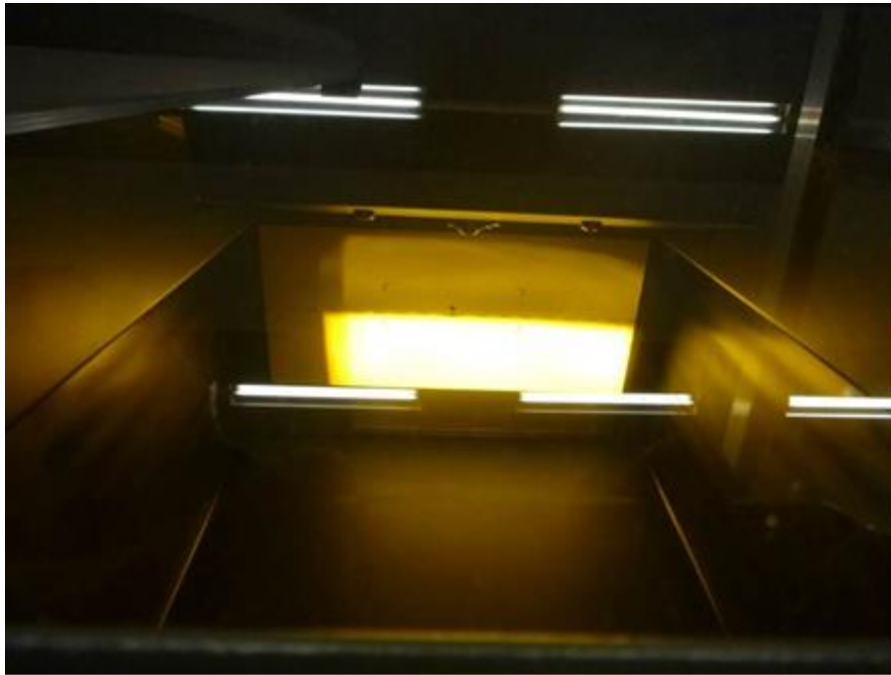
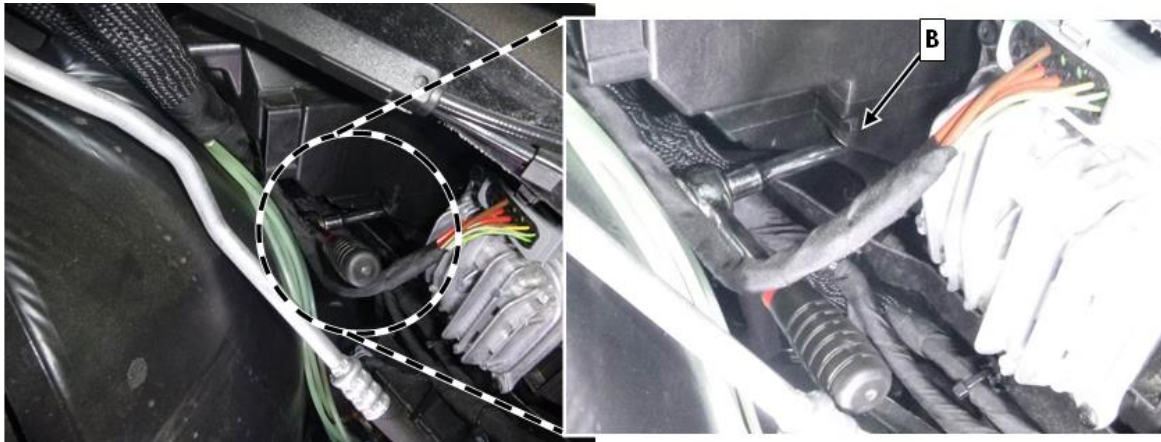
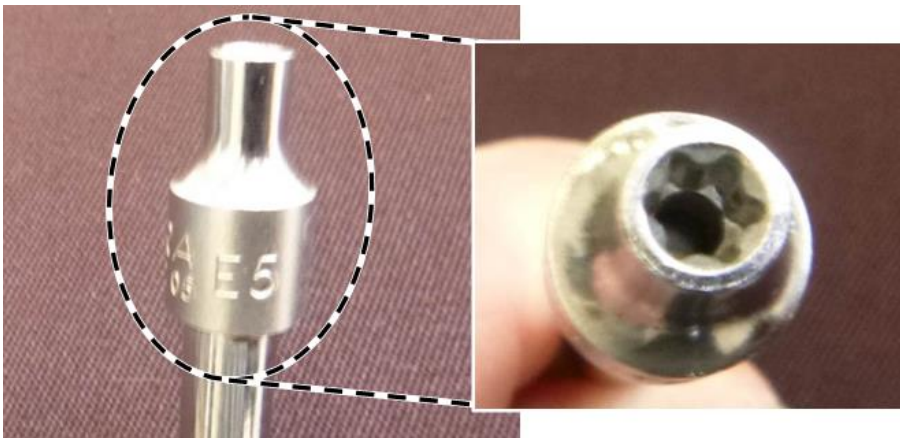

Figure 11 (view in headlamp aimer)
Figure 12 (shown on left headlamp)
Figure 13
6. Adjust base light of headlamp (Figure 11) by turning the adjustment screw (B, Figure 12) using a torx socket E5 (Figure 13).
4. Adjust base light of headlamp (Figure 11) by turning the adjustment screw (B, Figure 12) using a torx socket E5 (Figure 13).